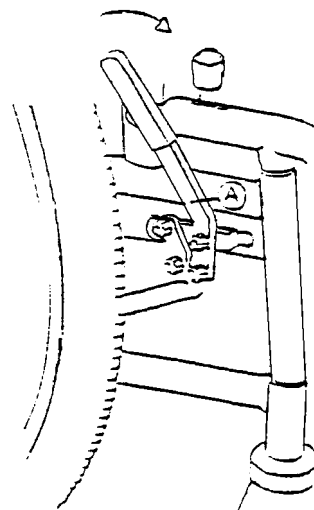

Figure 2
2 Apply the brake by pushing lever (A) forward (see FIG 2).